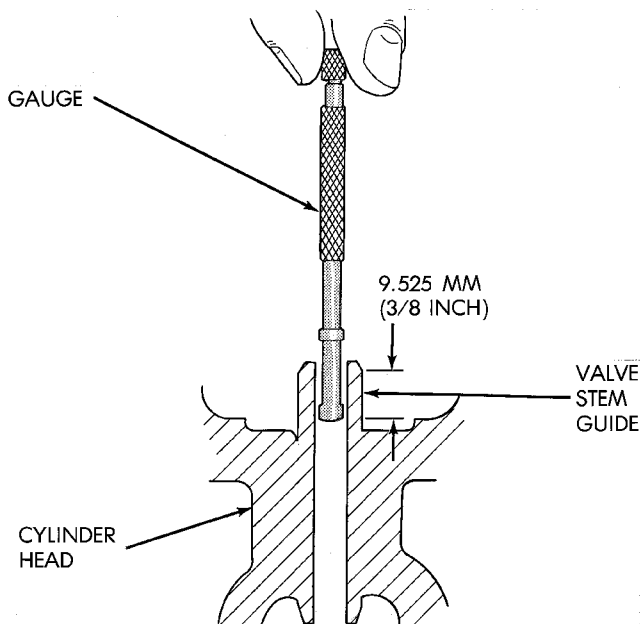

Fig. 66 Measurement of Valve Guide Bore Diameter
- (1) Remove the valve from the head.
- (2) Clean the valve stem guide bore with solvent and a bristle brush.
- (3) Insert a telescoping gauge into the valve stem guide bore approximately 9.525 mm (.375 inch) from the valve spring side of the head (Fig. 66).